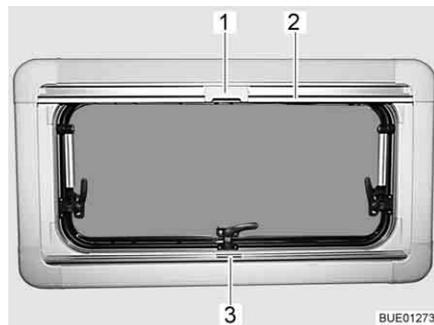

Fig. 118 Hinged window
- Grip the Roman shade in the centre of the holding bar (Fig. 118,3), pull it from the bottom to the top and then release it at the desired height. The Roman shade will stay at this height.
- Pull the insect screen down using the holding bar (Fig. 118,2), until it touches the holding bar of the Roman shade (Fig. 118,3).
- Clip the catch (Fig. 118,1) on the insect screen into the handle of the Roman shade.
- Push the catch (Fig. 118,1) on the insect screen inwards.
- Move the insect screen back slowly on the holding bar (Fig. 118,2).